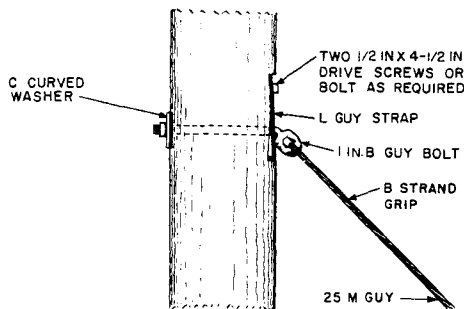

Fig. 5—Installation of B Guy Bolt—25M Strand
- (1) Cut a gain 7 inches long to a depth of 3/4 inch in the pole, so that the base of the strap will be supported on a square shoulder of the pole as shown in Fig. 5.
- (2) Place an L guy strap in the gain with the turned-over base toward the pole and resting on the shoulder of the gain.
- (3) Where the upper edge of the strap is located more than 16 inches from the top of the pole, secure the strap to the pole with two 1/2-inch by 4-1/2 inch drivescrews.
- (4) Where the upper edge of the strap is located 16 inches or less from the top of the pole, secure the strap to the pole with a 5/8-inch cable suspension bolt placed so that the head of the bolt is against the guy strap.
- (5) Place a 1-inch B guy bolt and attach guy as illustrated in Fig. 5.